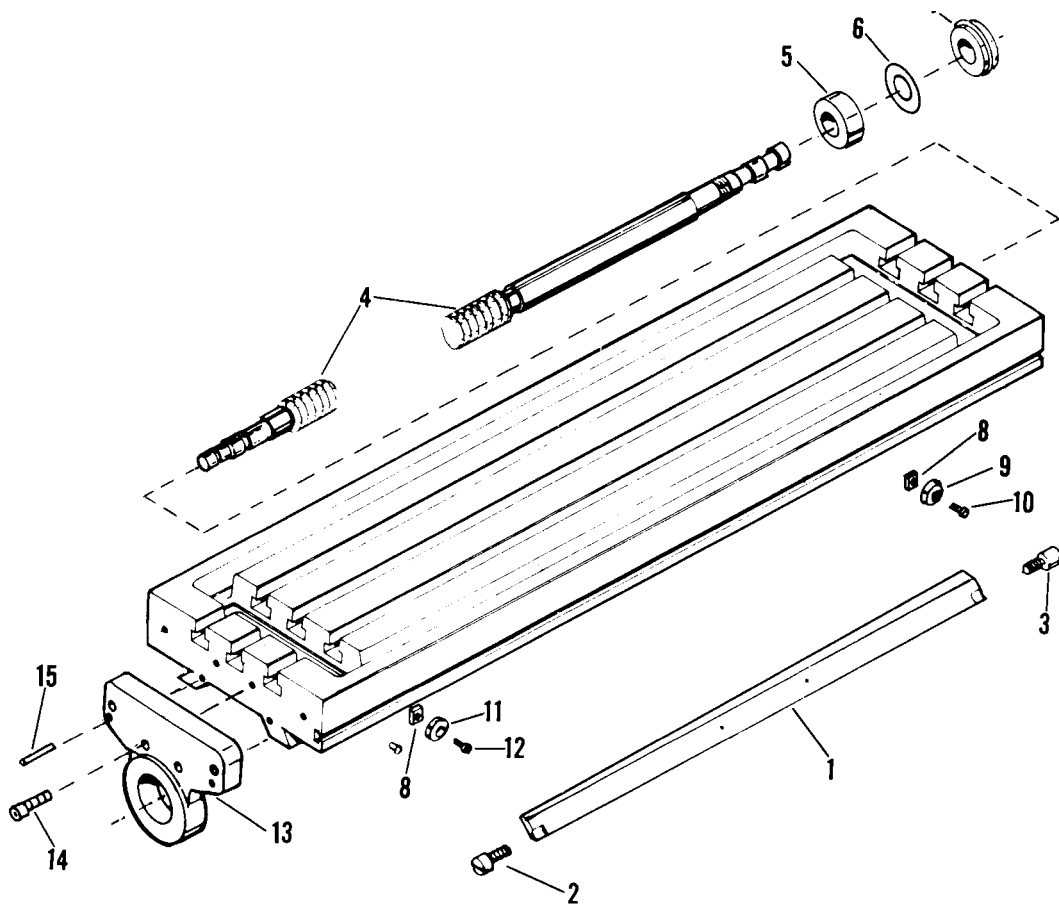

Figure 12. Table Exploded View
33. GIB (figure 12)
2. To tighten gib, back off the gib screw (2) on the left end of the gib (1) and tighten the gib screw (3) on the right end the same amount.
34. TABLE (figure 12)